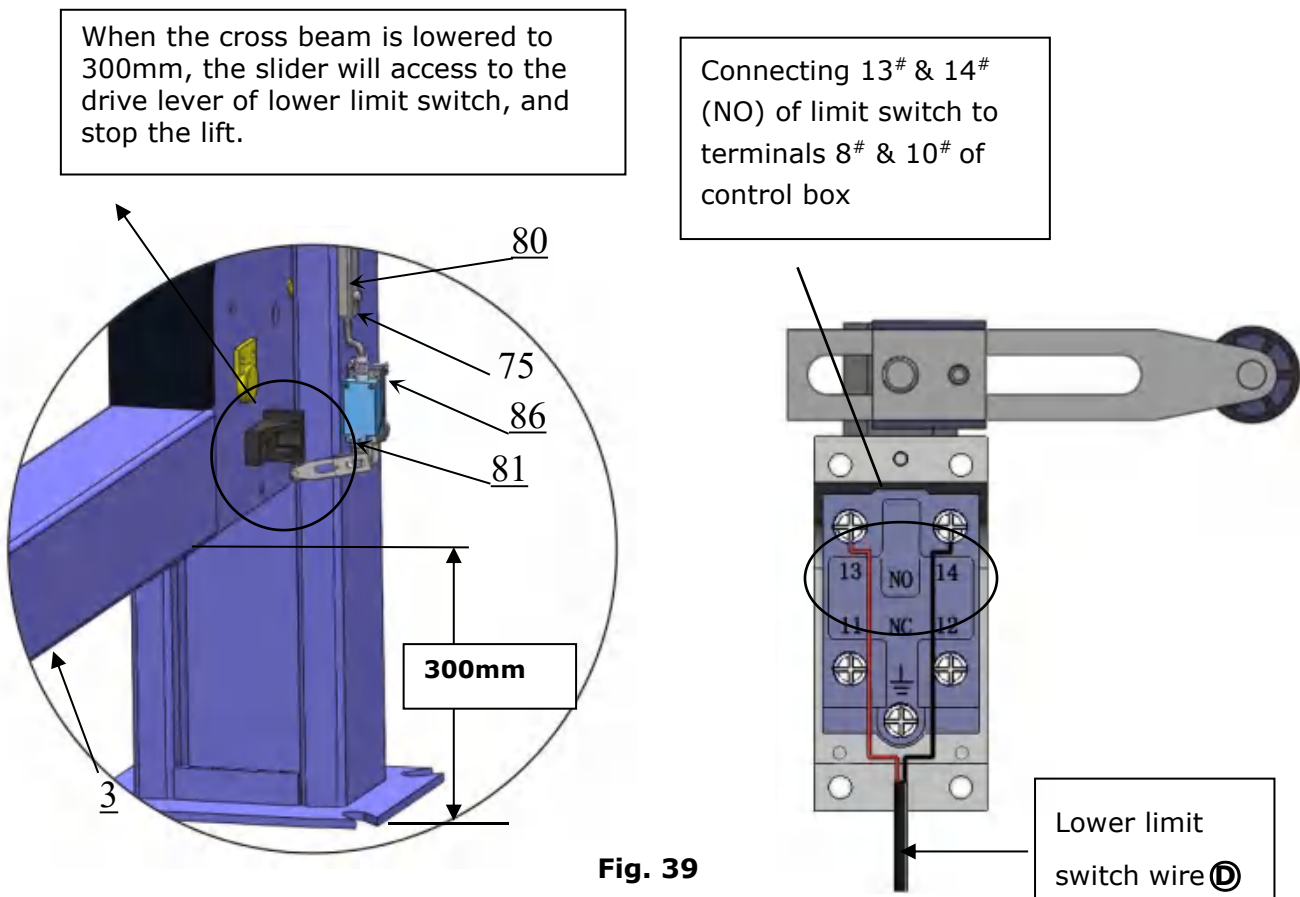

Fig. 39
2. Install lower alarm limit switch (See Fig. 39)